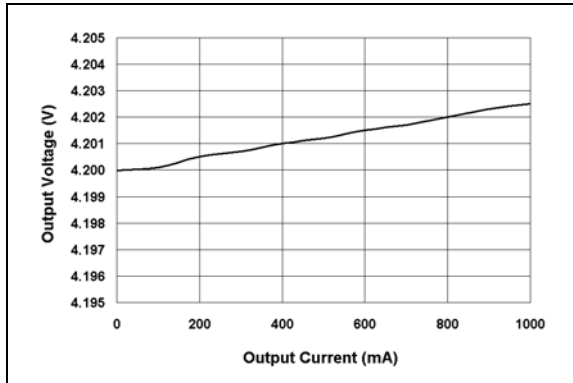

**FIGURE 1-1:** MCP73826 Test Circuit.
Unless otherwise specified, all limits apply for  $V_{IN} = [V_{REG}(typ)+1V]$ ,  $R_{SENSE} = 500\text{ m}\Omega$ ,  $T_A = -20^\circ\text{C}$  to  $+85^\circ\text{C}$ . Typical values are at  $+25^\circ\text{C}$ . Refer to Figure 1-1 for test circuit.
**Note:** Unless otherwise indicated,  $I_{OUT} = 10\text{ mA}$ , Constant Voltage Mode,  $T_A = 25^\circ\text{C}$ . Refer to Figure 1-1 for test circuit.